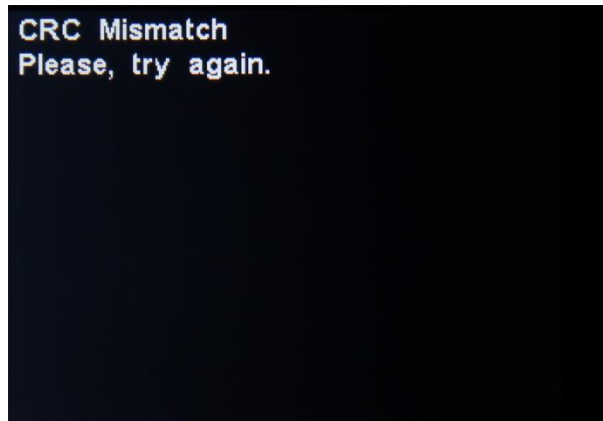

Figure A3.4 - Unsuccessfully installed firmware
3.4. After completing the update process, the device checks the installed firmware. If the checksums do not converge, a mismatch message is displayed on the screen (Figure A3.4). After rebooting, the device will be in the update error mode. Check the connection of the device to the PC and carry out the firmware update again.